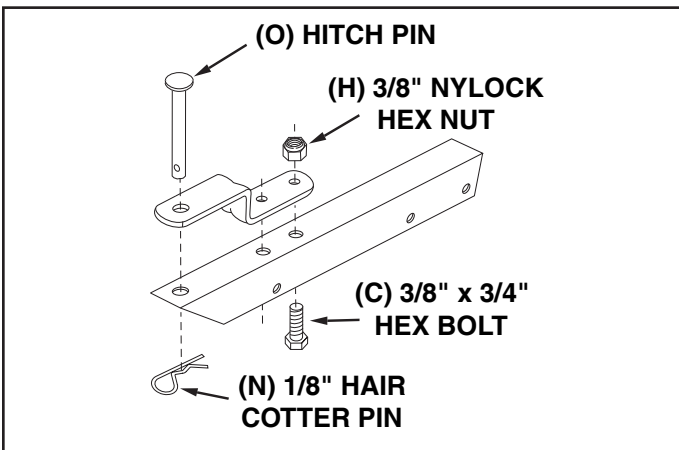

FIGURE 15
25. Assemble the hitch bracket to the hitch extension bracket using two 3/8" x 3/4" hex bolts (C) and 3/8" nylock hex nuts (H). Insert the bolts from the bottom. See figure 15.
26. Assemble the hitch pin (O) through the hitch bracket and the hitch extension bracket and secure with the hair cotter pin (N). See figure 15.